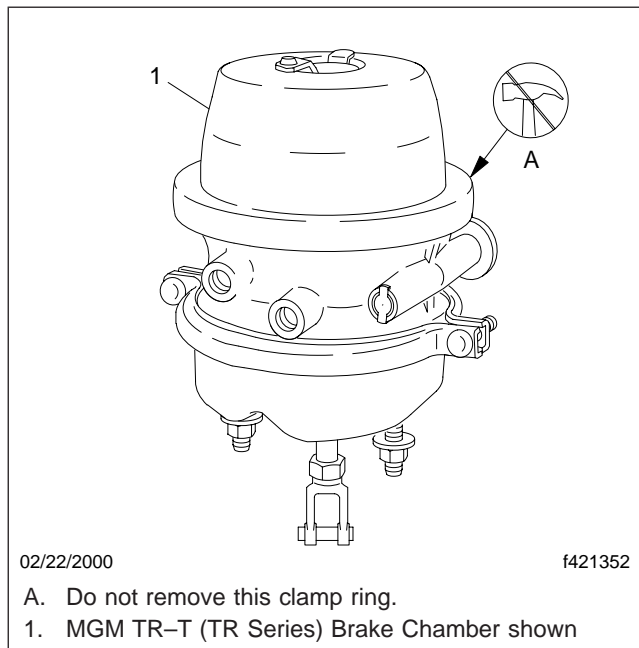

Fig. 11.12, Parking Brake Chamber Clamp
21. Inspect the air brake chamber and the air brake chamber pushrods. See Fig. 11.12 .